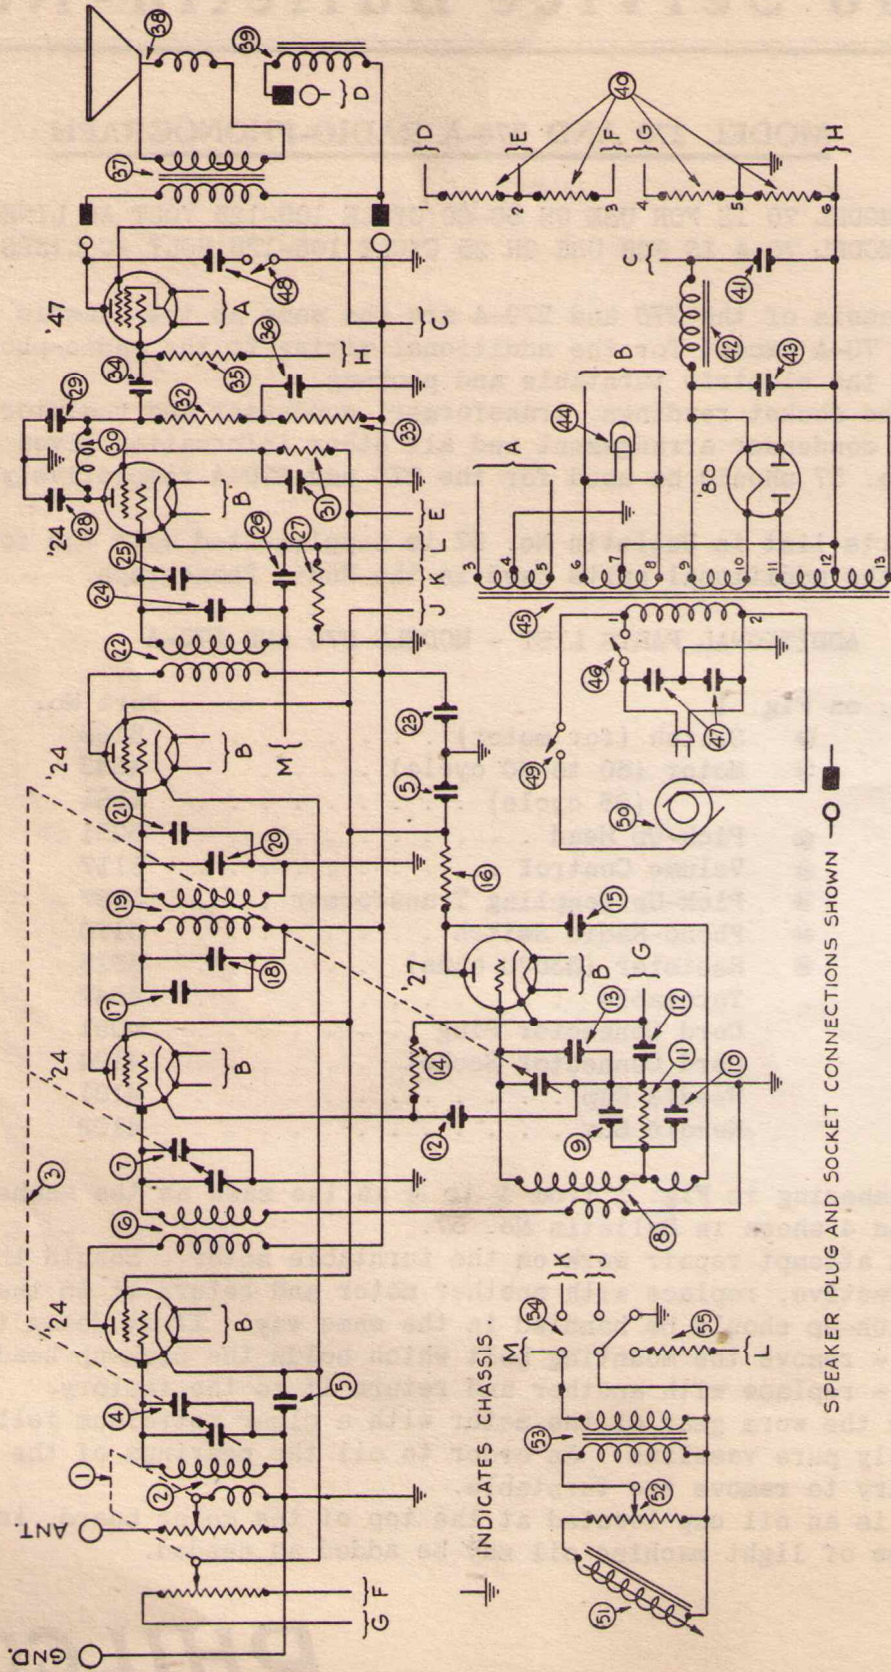

Fig. 1
The numbering in Fig. 1 from ① to ⑩ is the same as the numbering in Figs. 3 and 4 shown in Bulletin No. 57.